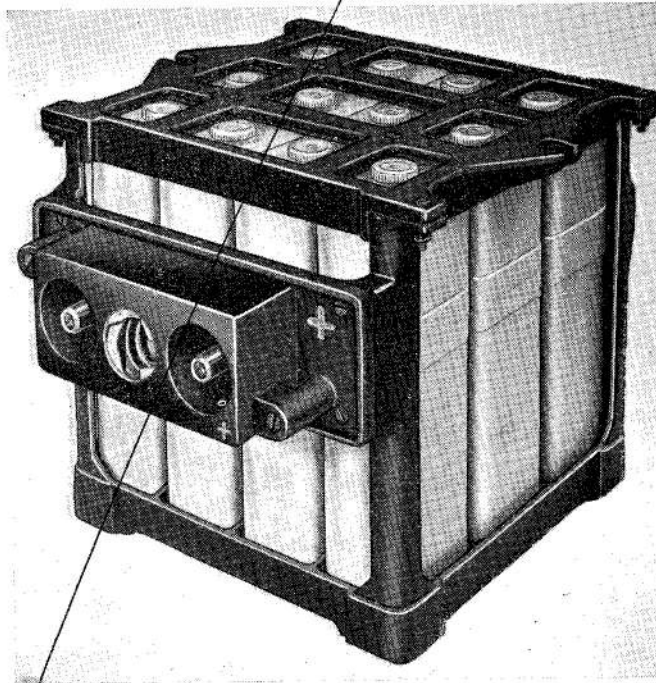

Fig. 1. Battery, Type H, 24-volt, 5.5 amp. hr.
Battery, Type H, 24-volt, 5.5 amp. hr.	Fig. 1
2. The battery (fig. 1) consists of twelve 2-volt cells arranged in four banks, and assembled in a metal crate. The cell containers are made of acid-resisting polystyrene resin, and the cells are fitted with microporous plastic separators.